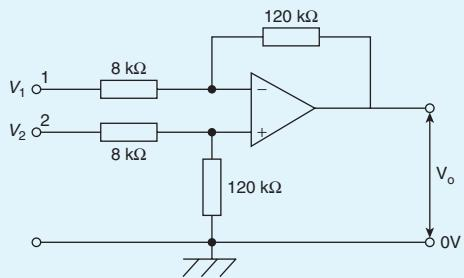

Figure 19.21
- In the differential amplifier shown in Fig. 19.21, determine the output voltage,  $V_o$ , if: (a)  $V_1 = 4\text{ mV}$  and  $V_2 = 0$  (b)  $V_1 = 0$  and  $V_2 = 6\text{ mV}$  (c)  $V_1 = 40\text{ mV}$  and  $V_2 = 30\text{ mV}$  (d)  $V_1 = 25\text{ mV}$  and  $V_2 = 40\text{ mV}$